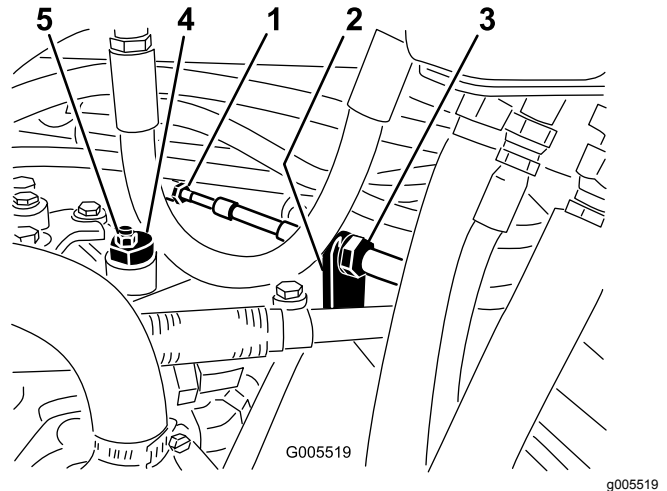

Figure 52
- A. Loosen both jam nuts securing the traction control cable to the bulkhead on the hydrostat (Figure 52). Make sure the jam nuts are loosened equally and sufficiently to allow adjustment.
**Note:** Loosen the nut securing the eccentric to the top of the hydrostat (Figure 52).
eccentric and the adjustment (Figure 52). Verify the adjustment with the throttle in the Slow and Fast position.
- D. From each side of the bulkhead, tighten the locknuts evenly, securing the traction cable to the bulkhead (Figure 52) Do not twist the cable.